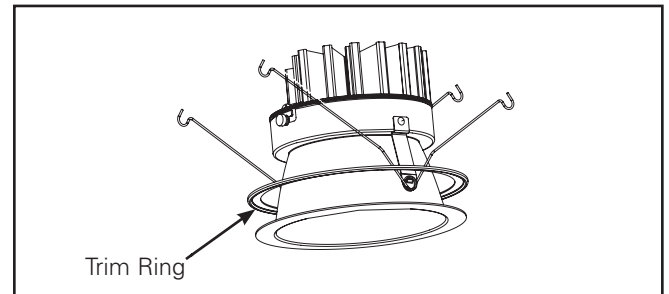

Figure 10.
7. Trim Ring (optional) should be placed between the ceiling and lower trim (Figure 10.).